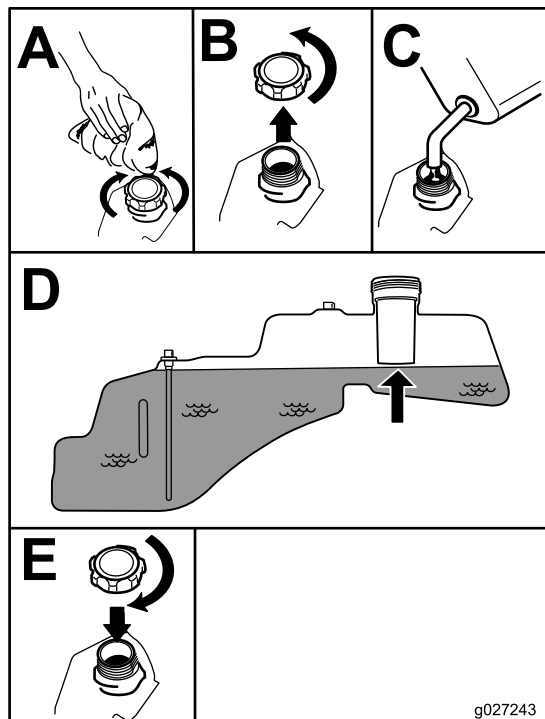

Figure 8
**Note:** You can use the fuel window to verify the presence of gasoline before filling the tank (Figure 8).